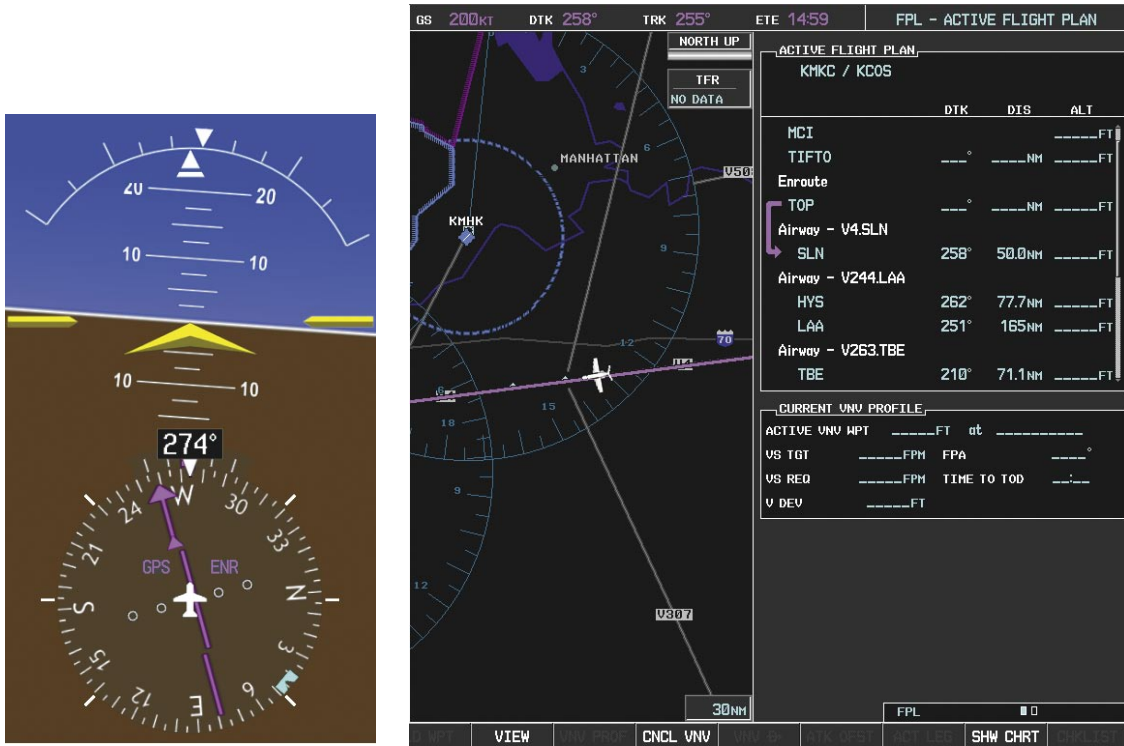

Figure 5-113 Turn on to Active Leg
- 7) As the CDI approaches center, the aircraft turns onto the active leg as seen in Figure 5-113.